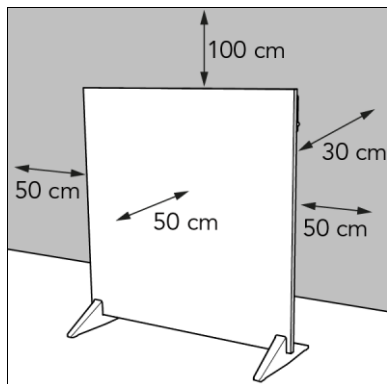

Figure 7
2. Place the device with a minimum distance (Figure 7) of: